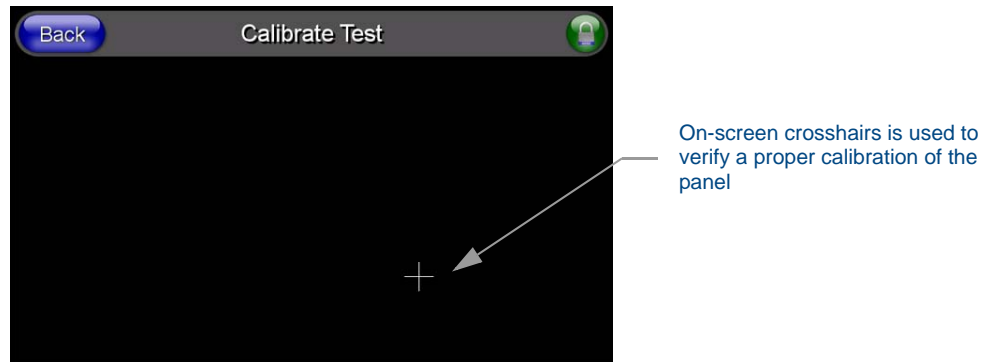

FIG. 49 Calibration Test page
1. Press and hold down the on-screen **Calibration** button for 6 seconds to enter the Calibration Test page (FIG. 49).